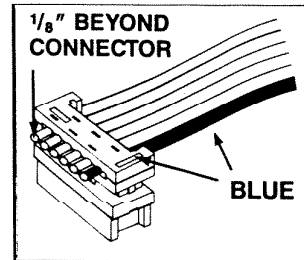

FIGURE 4
- (B) Insert cable into the upper part of connector from the NOTCHED end and with the BLUE wire on the same side as the word BLUE that is stamped on the top of the connector. The cable should be inserted 1/8" beyond the back of the connector. See Figure 4.